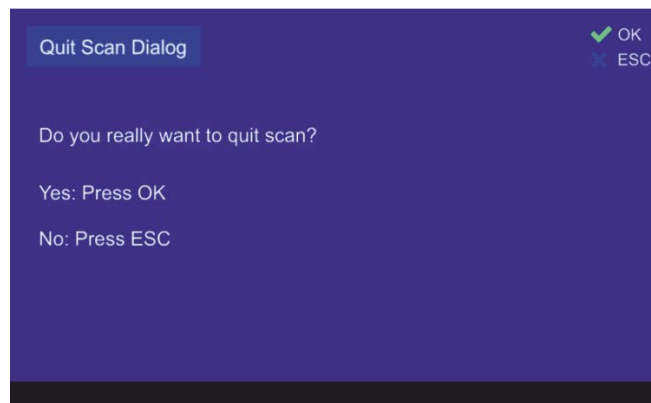

Fig. 50 Confirming of leaving the scan mode
- You can stop the scan mode by pressing the “HOME” while on the “Bearing” page with activated scan. After you confirm the dialog (s. Fig. 50), this mode will be terminated.